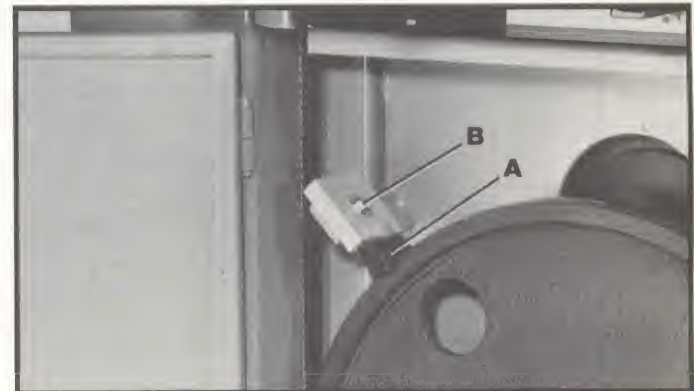

Fig. 29
A wheel brush (A) Fig. 29, is provided to keep the blade and tires clean and free of any build-up of chips. Adjustment to the brush (A) can be made by loosening screw (B) and adjusting the brush accordingly.